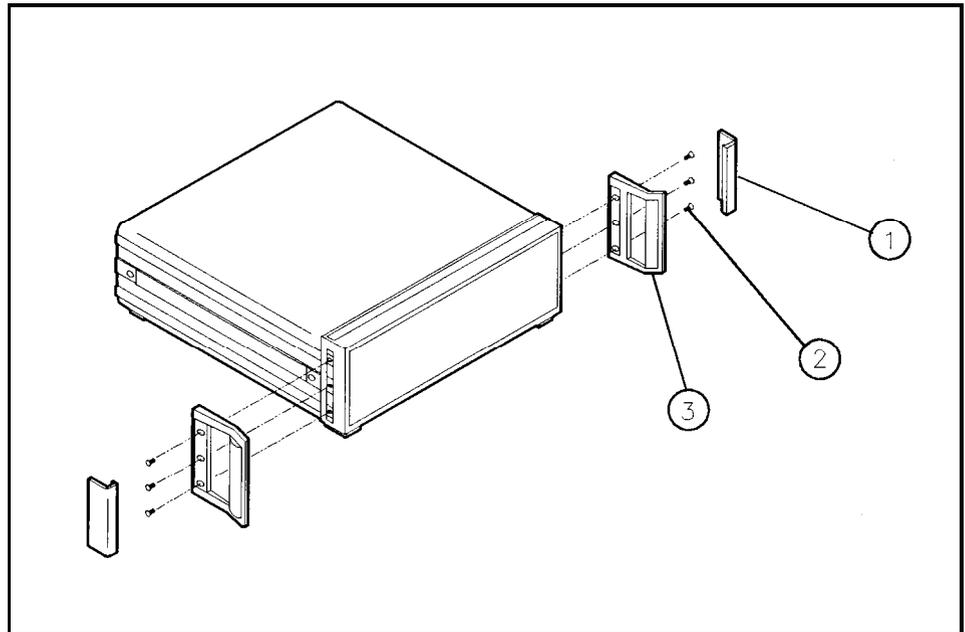

Figure 2-3. Removing the Handles and Trim
1. Remove the front-handle trim from each side of the RF and IF-Display sections. See callout 1 in Figure 2-3.
2. Remove the three screws securing each handle, and remove the handles. See callouts 2 and 3 in Figure 2-3.